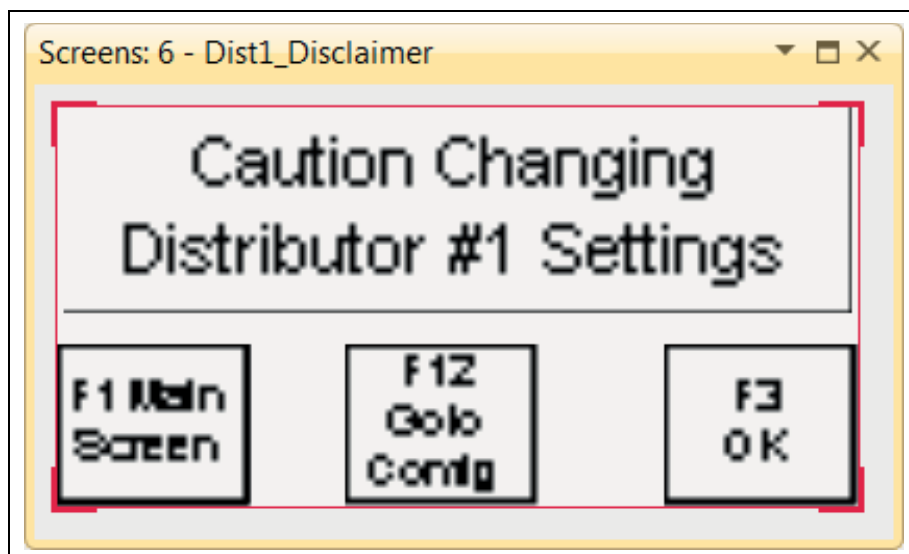

Figure 5D
4. Press the **F4** key. A **user** window will appear. Enter “2” and press “Enter” ←. The **password** window will appear: Enter “1500” for the password and press “Enter” ←. Upon pressing enter, the next screen will be the disclaimer screen. Press **F3** (OK). (See Figure 5D.)